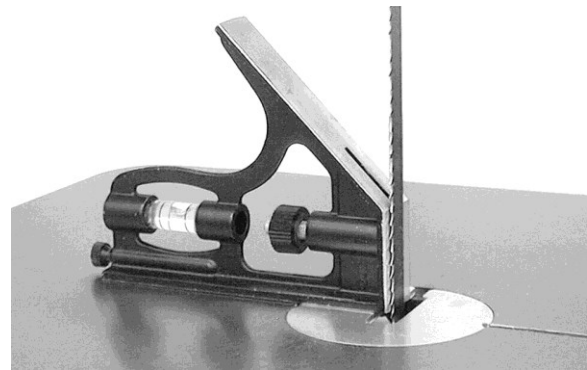

Figure 14
3. Tighten two lock knobs (Figure 14).
3. Use a square placed on the table and against the blade (Figure 14) to see if the table is 90 degrees to the blade.